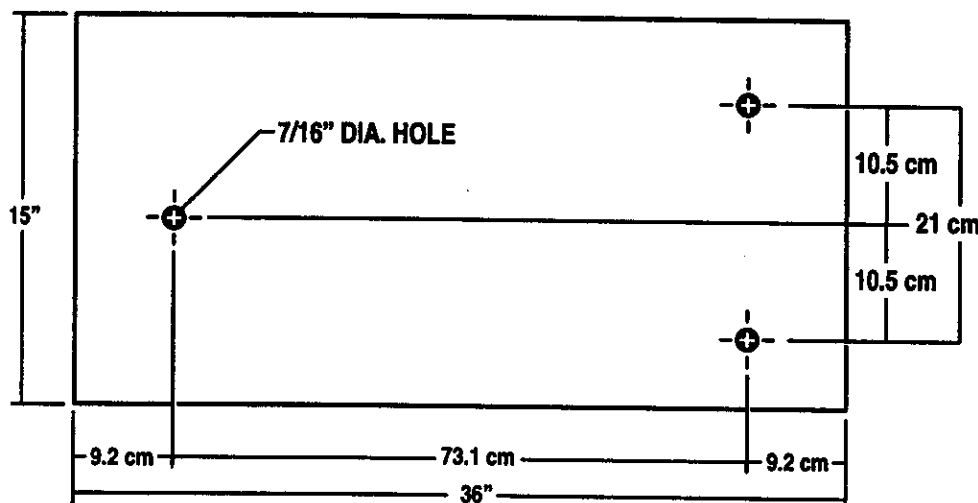

Fig. 5
See Figure 5.
- Mount saw to board using holes in frame as a template for hole pattern or the diagram in Figure 5. Locate and mark the holes where scroll saw is to be mounted.
- Tension adjusting knob is on the top of the saw. *See Figure 5.* Rotate the quick release knob (outer, larger knob) 1/4 turn to the left or counterclockwise to release blade tension.